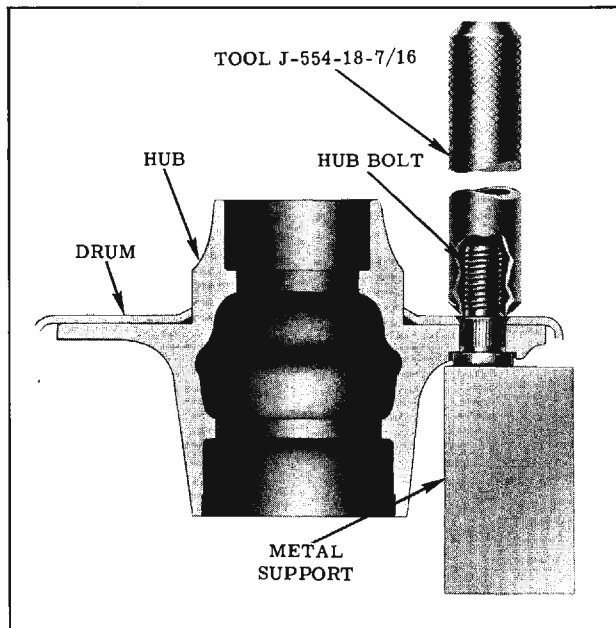

Fig. 7-115 Peening Hub Bolt
4. While supporting hub bolt,peen hub bolt into the countersunk area of drum with the use of Peening Tool J-554-3-7/16" until the drum is secure to the hub. (Fig. 7-115)